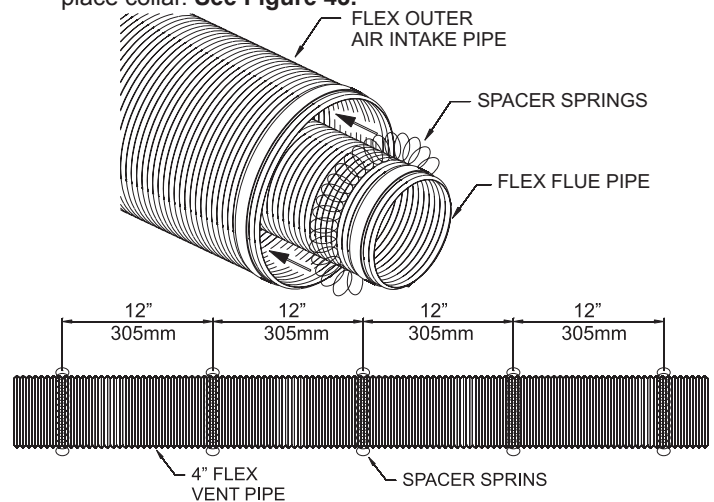

Figure 43
9. Install the spring spacers provided around the 4" diameter flex flue at 1 foot intervals, then slide the flue pipe with spacers into the 7" diameter outer flex vent pipe. Make sure the springs are spaced evenly starting at 12 inches from the fireplace collar. **See Figure 43.**